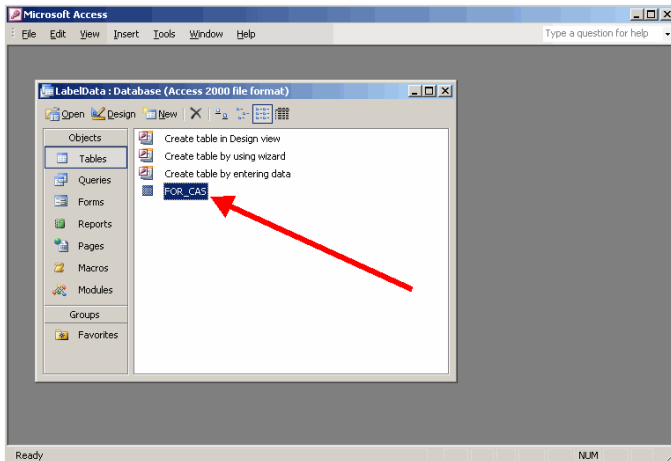
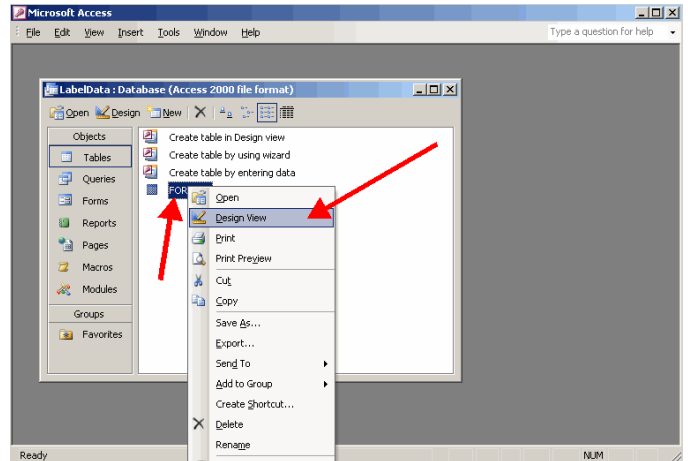

Figure 2-8a
Figure 2-8b
2.4.1. Right click on the first table you imported in Steps 2.3.2 through 2.3.4 , (Figure 2-8a) and choose *Design View* from the menu. (Figure 2-8b)